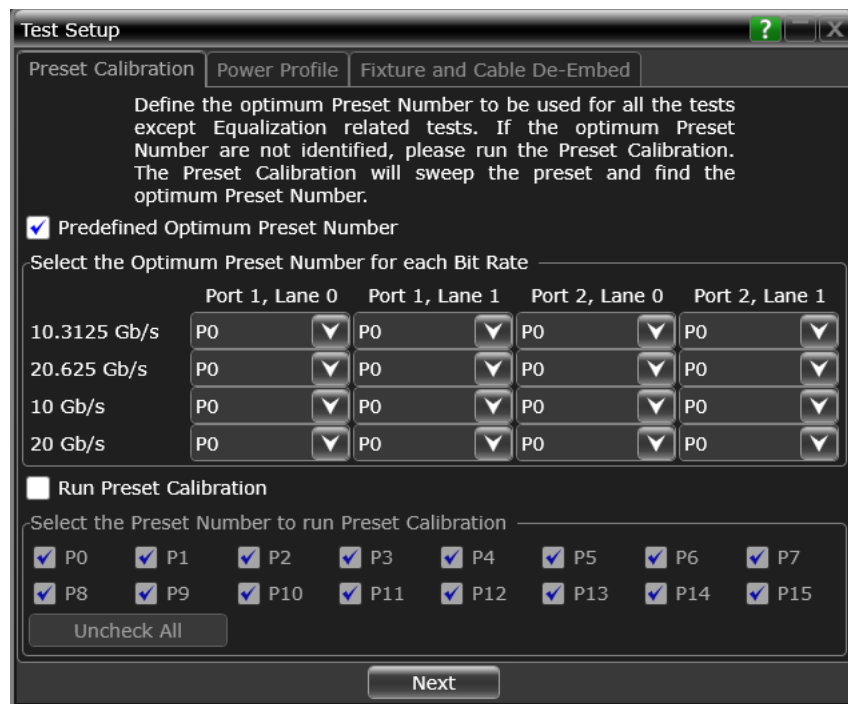
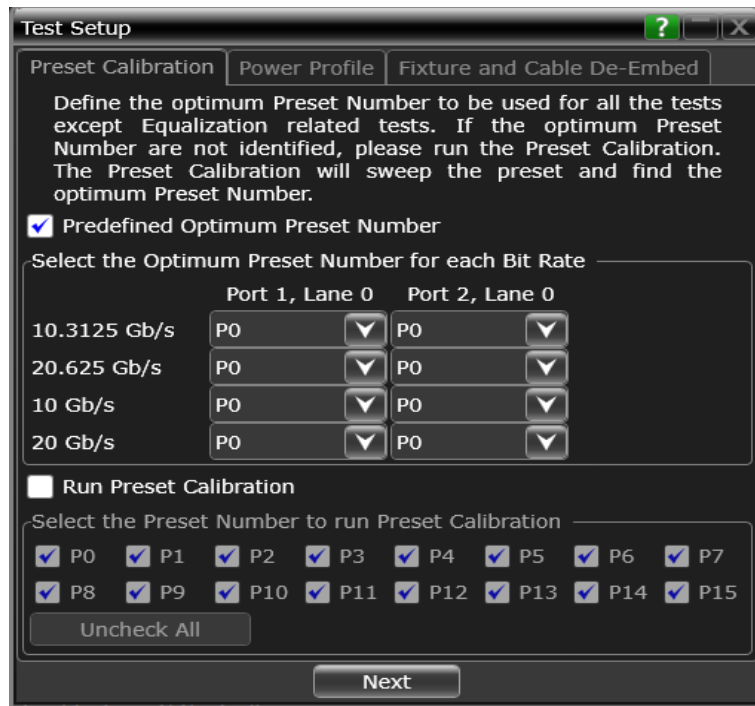

Figure 20 Default view of the Preset Calibration tab on a 4-Channel Oscilloscope
Figure 21 Default view of the Preset Calibration tab on a 2-Channel Oscilloscope
- 2 The **Test Setup** window appears, where the **Preset Calibration** tab is displayed by default, as shown in Figure 20 for a 4-Channel Oscilloscope and Figure 21 for a 2-Channel Oscilloscope.